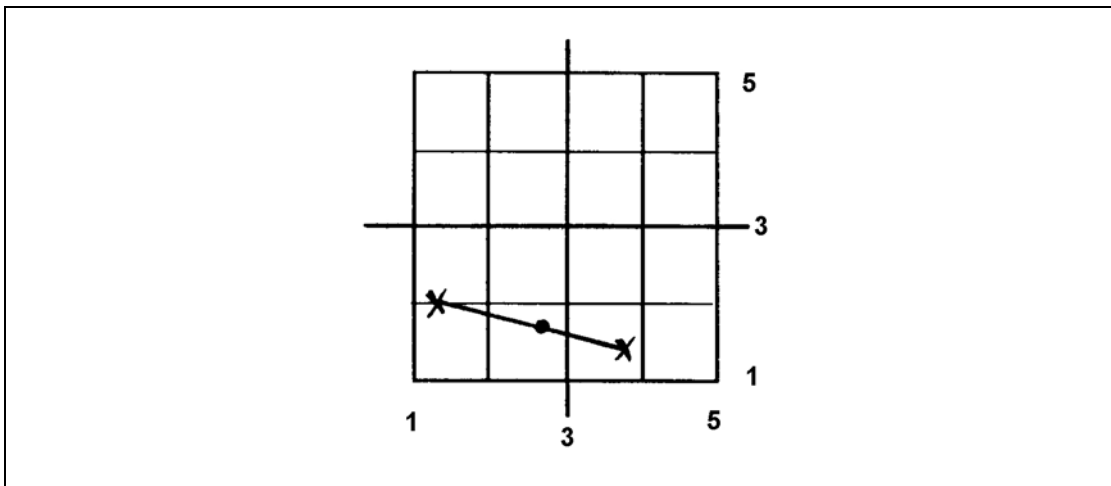

Figure B-22. Aiming point.
- (11) Determine aiming point of gun.
- Mark the middle of the line. This is where the gun is aiming (Figure B-22).